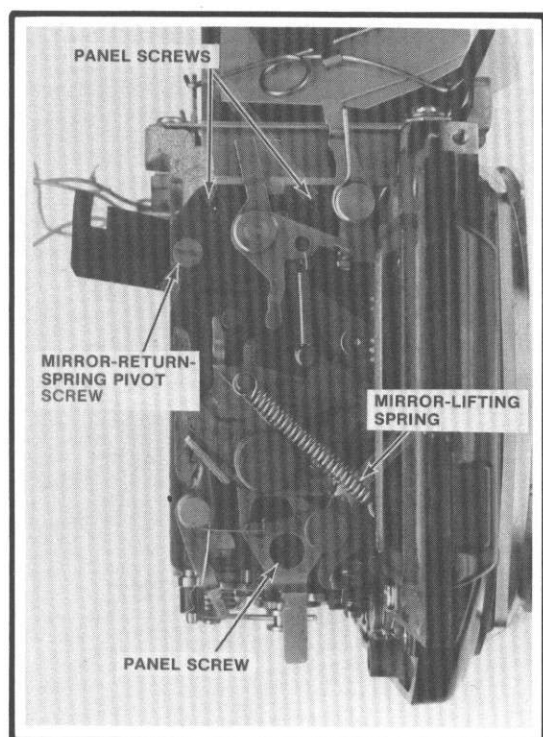
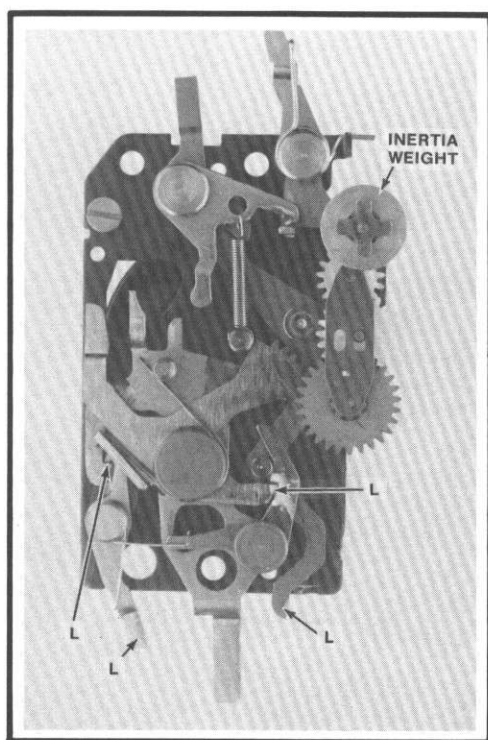

Figure 52
Figure 53 Mirror Mechanism
3. Disconnect and remove the mirror-lifting spring, Fig. 52.
4. Push the mirror-lifting lever to the charged position, Fig. 52. You can now reach all three screws holding the side panel. Remove the three screws and lift out the mirror mechanism, Fig. 53.
The mirror mechanism, Fig. 53, is supplied as a complete unit for replacement purposes. Lubricate the mirror mechanism at the points marked "L" with a losoid grease. Put a drop of shutter oil on the inertia-weight pivot of the mirror governor.
3. Back out the mirror-return-spring pivot screw, Fig. 52.